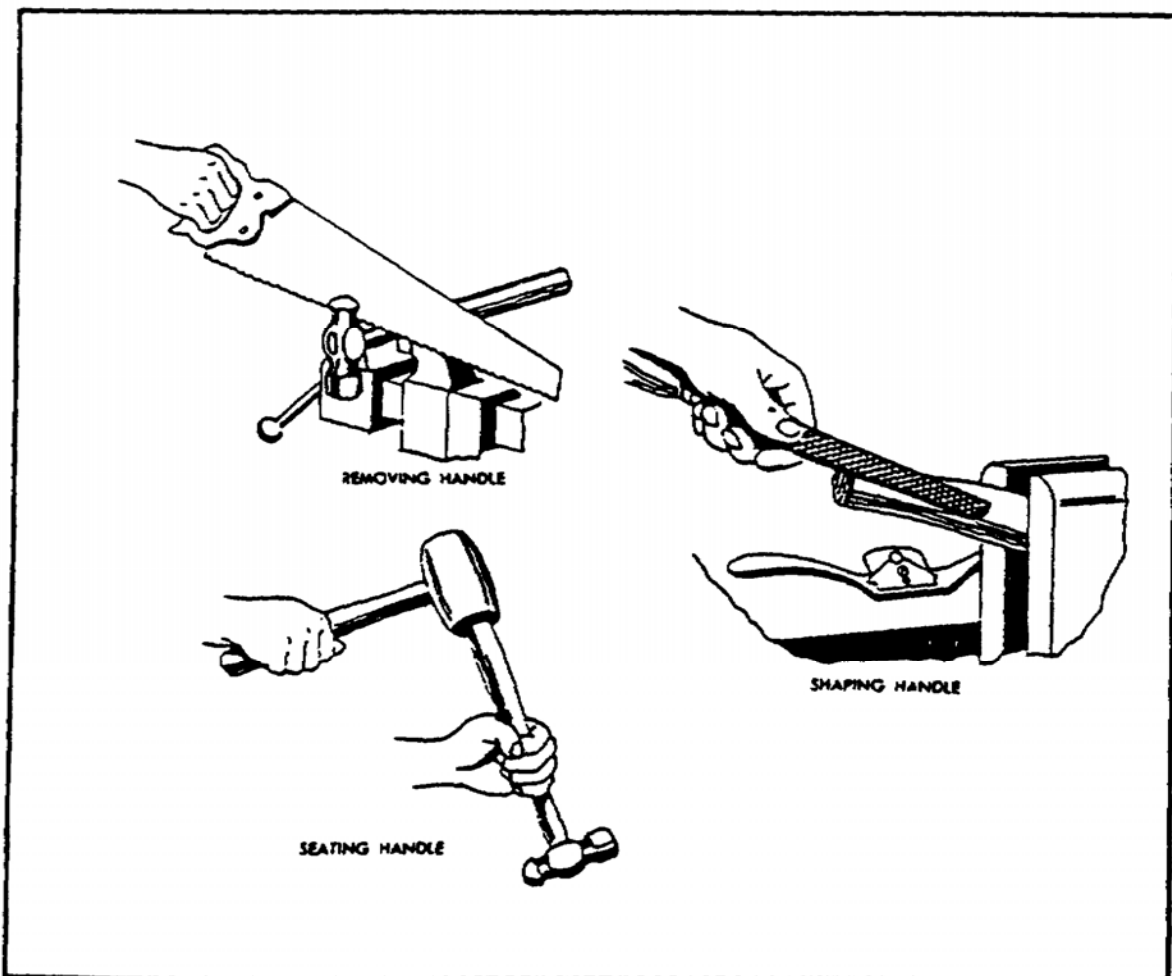
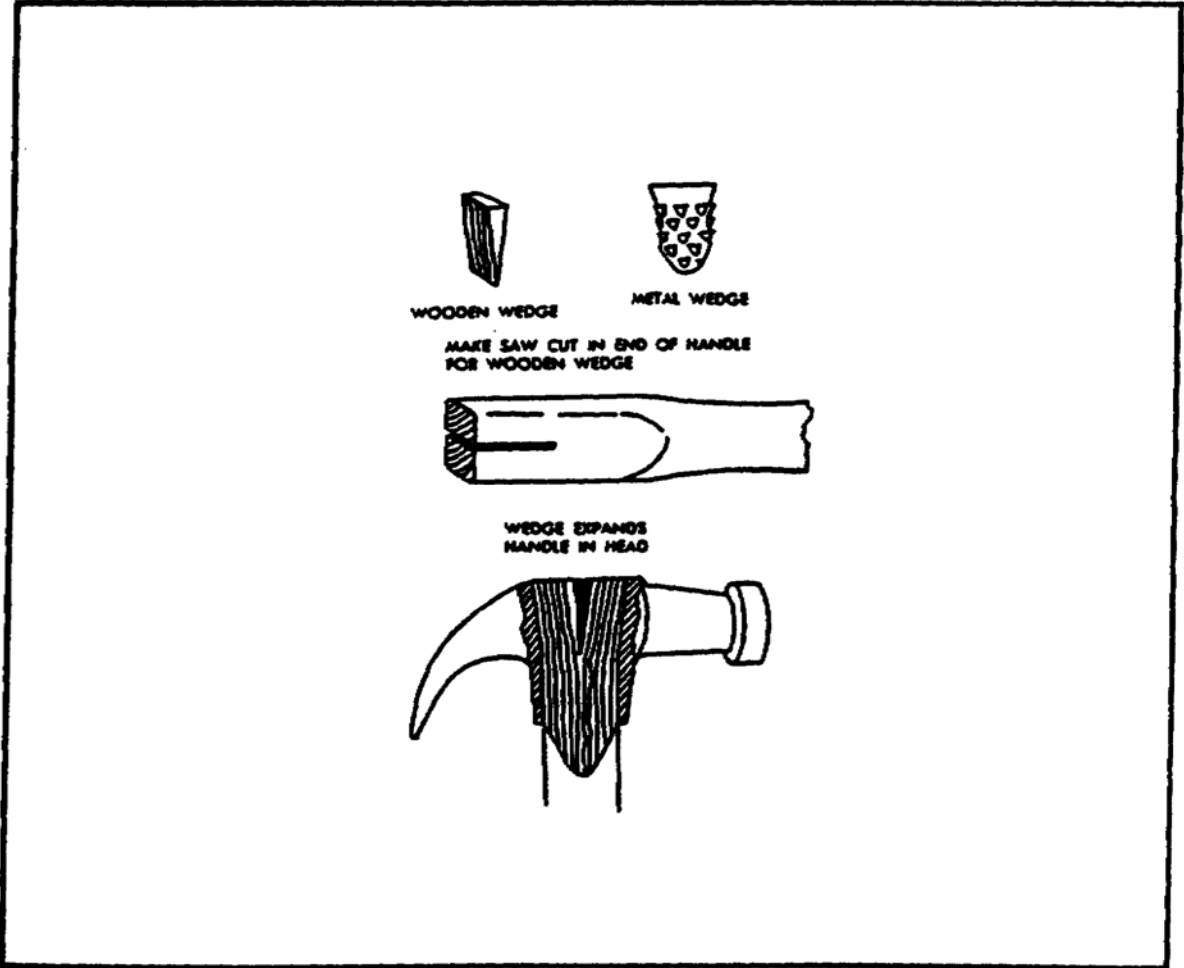

FIGURE 4. REPLACING HAMMER HANDLE.
FIGURE 5. HAMMER HANDLE WEDGES.
(1) *Repair.* Handles on hammers and sledge hammers must be inspected constantly to see that they are tight and to check for split or broken wood. If the handle is loose, seat it into the eye of the hammer head by striking the end of the handle with a mallet (figure 4), and then drive the wedges back into the handle. If the wedges are not tight or do not spread the handle sufficiently to make it tight, add another wedge or use larger wedges, if possible. In an emergency, a loose handle may be temporarily tightened by soaking it in water until the wood swells within the head. If the handle does not become tight, replace the handle.
(2) *Replacement* (figure 4). If a handle is split or broken, remove it from the head of the tool. If the handle is too tight to pull out of the head, saw off the handle close to the head and drive the remaining end out through the large end of the eye. Save the wedges. Shape a new handle from hickory or maple to fit, using a spoke shave or wood rasp. If using a wooden wedge, make a saw cut in the end of the handle, as shown in figure 5.